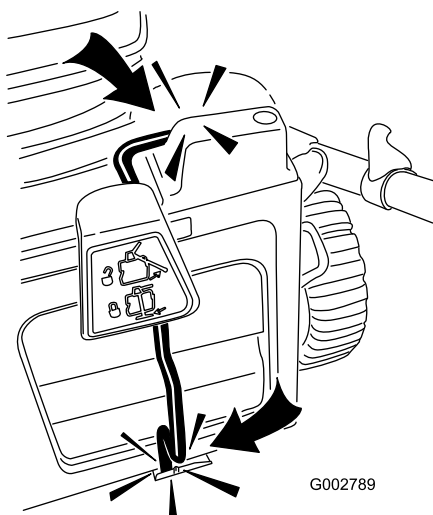

Figure 10
3. Ensure that the lever snaps snugly into place in both the switch channel and lever retainer (Figure 10). **If they do not, your mower will not start!**